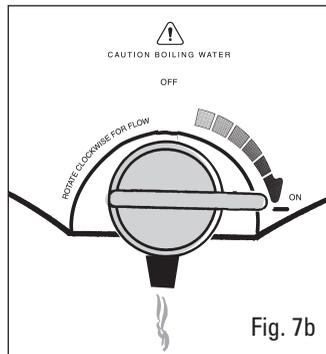

Fig. 7b
- Turn the knob clockwise to fill your cup (Fig. 7b).